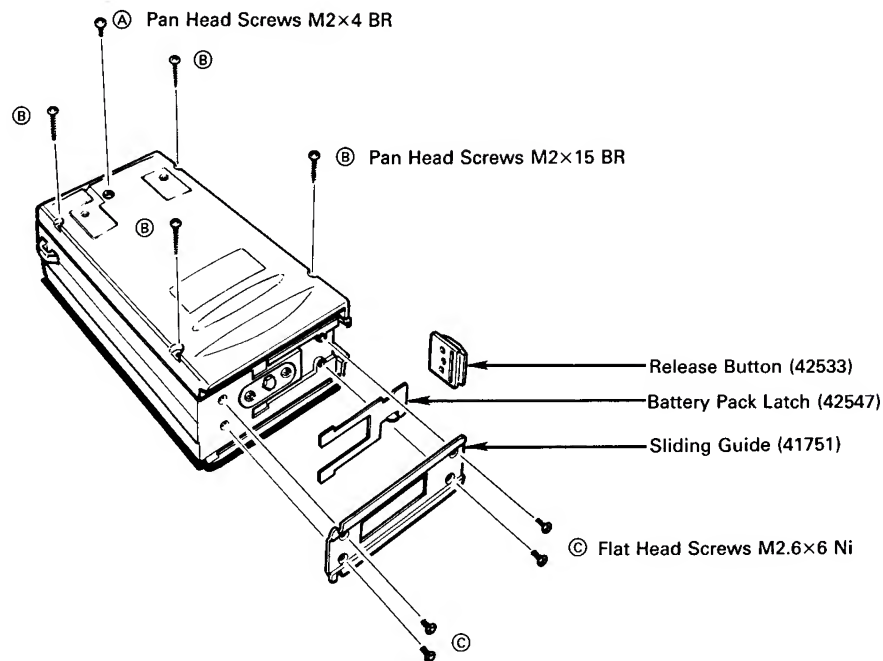

Fig. 5-1-1
2. Remove screw (A), four screws (B) on the REAR PANEL and four screws (C) on the bottom as shown in Fig. 5-1-1.